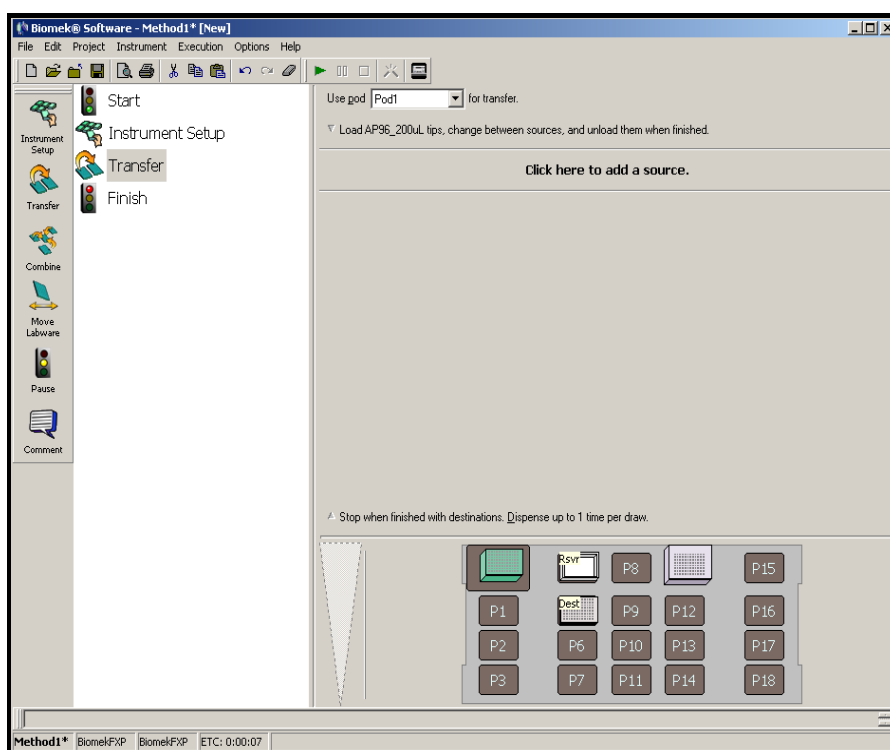

Figure 1-9. Tip Handling configured and collapsed
9. You will not be changing the Transfer Details section at this time, so click the **down arrow** next to Transfer Details to collapse the Transfer Details configuration to a summary. This gives you more room for the Source and Destination configurations. The editor now looks like Figure 1-9.